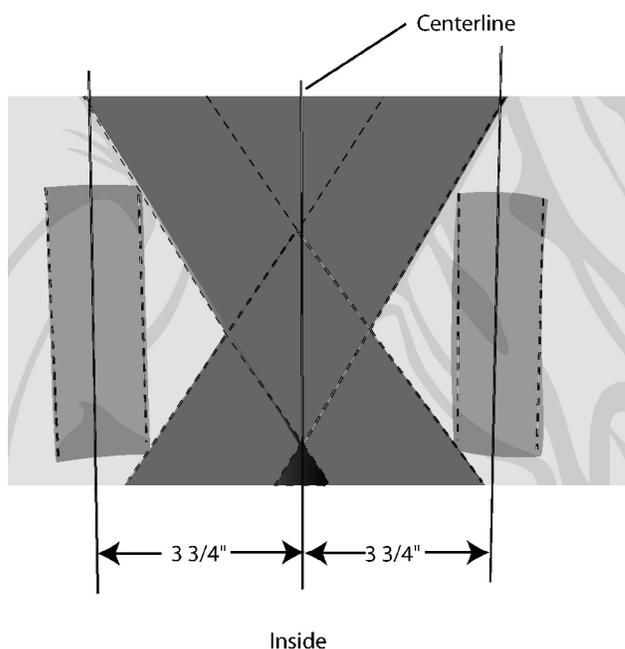

Figure 8. Attachment of Reinforcement Patches
(13) Sew down the edges of the back strap guide. Leaving the top and bottom open, repeat for other side.
(14) Lay torso harness with the inside of the back facing up.
(15) Position the centerline of two reinforcement patches on the layout marks, sew down the edges of the back strap reinforcement patch. Ensure that reinforcement patches are located in same position as the back strap guides on the back of the harness (Figure 8).